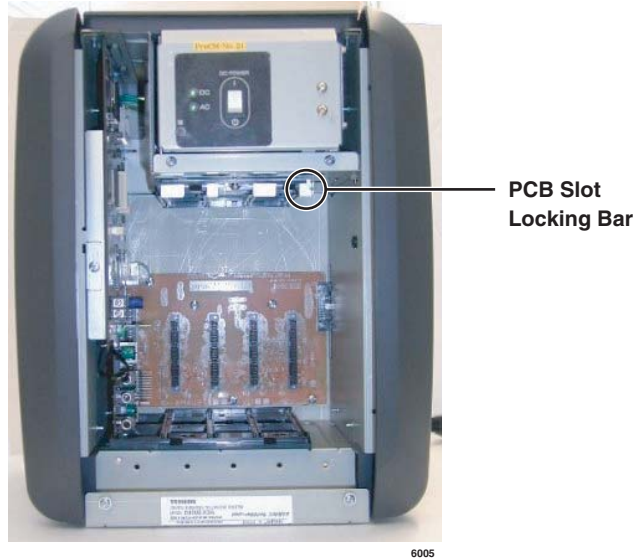

Figure 3-19 PCB Slot Locking Bar
3. Slide the PCB Slot Locking Bar to the right, then insert each of the PCBs; push the PCBs firmly toward the motherboard, making sure that the connectors are secured (see Figure 3-19). Lightly tug on each PCB to make sure that it’s installed securely.